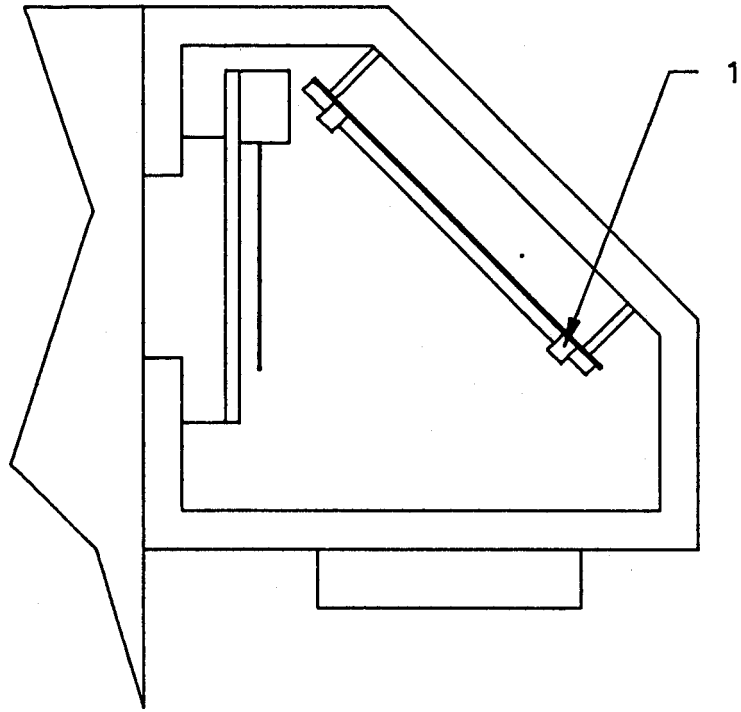

Fig.9.REPLACING THE 2nd MIRROR
1. Locate the mirror holding clamps (1) - see Fig. 9.